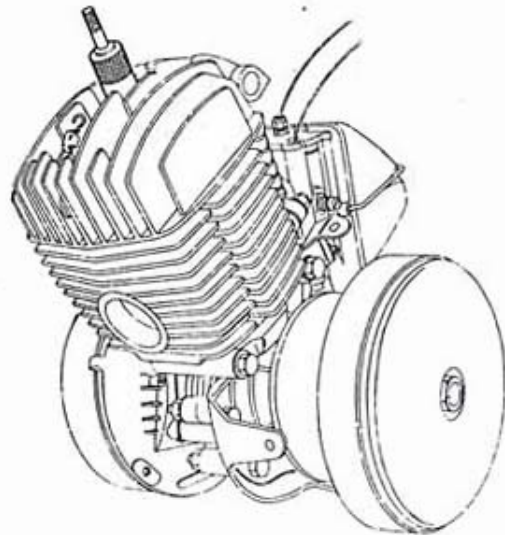

Fig. 2
1. Screw in the timing tool (No. 100013) in place of spark plug (fig. 2).